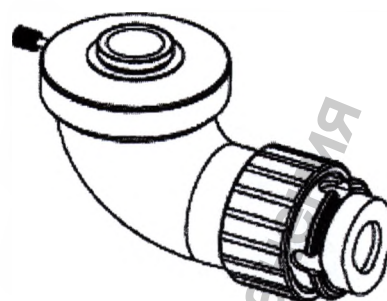

Fig. 26
13.5 Adapter for CCD camera. (fig. 26)